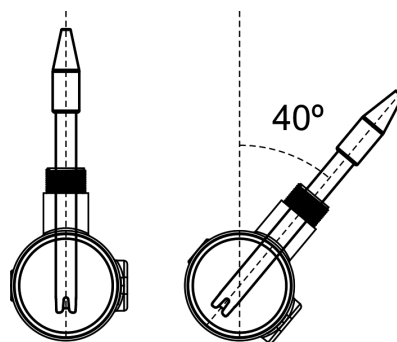

Fig. 13
4. Always install the pH sensor vertically or with a maximum inclination of 40° (Fig. 13).